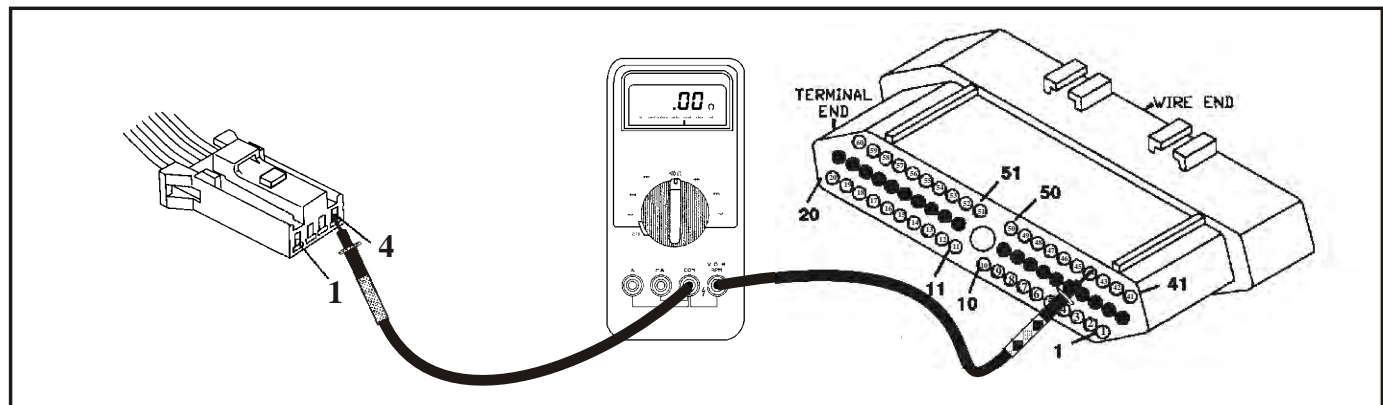

Figure 70
- Perform a continuity check from terminal 4 in the Autostick connector to terminal 44 in the TCM (See Figure 70). If continuity is seen, move to the next step. If continuity is not seen, the wire is severed. Repair or replace the wire.